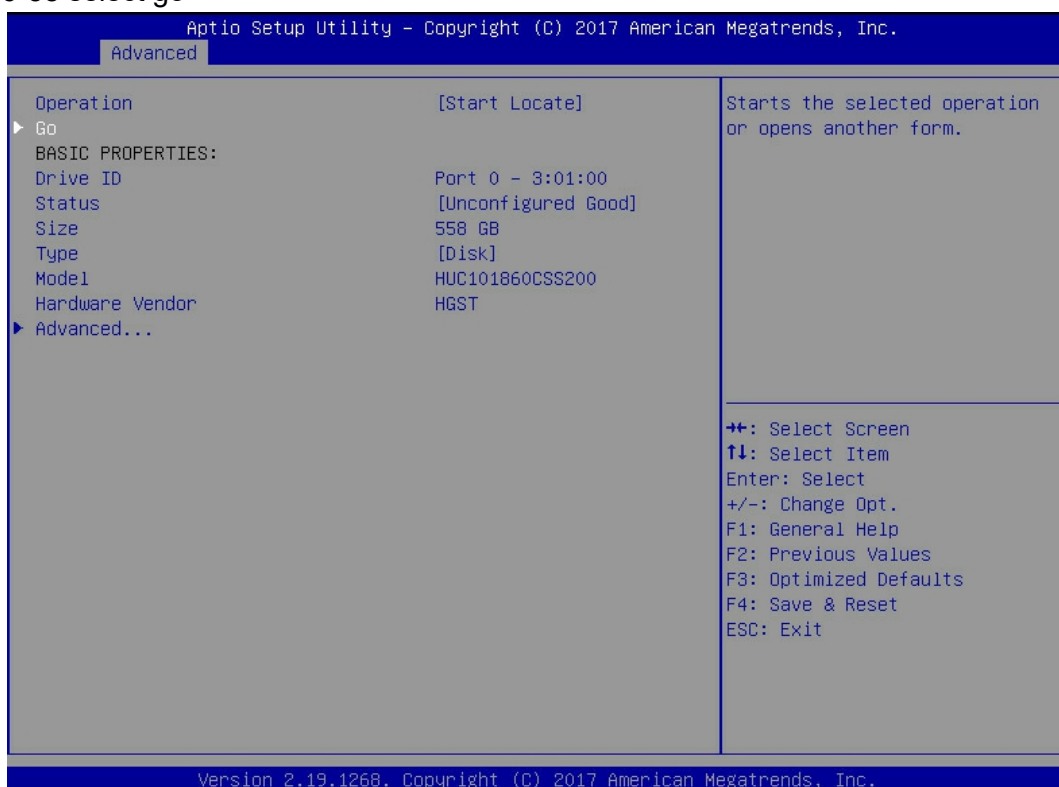

Figure 6-58
d) Enter the interface shown in figure 6-58, select go and press enter.
❖ Figure 6-58 select go